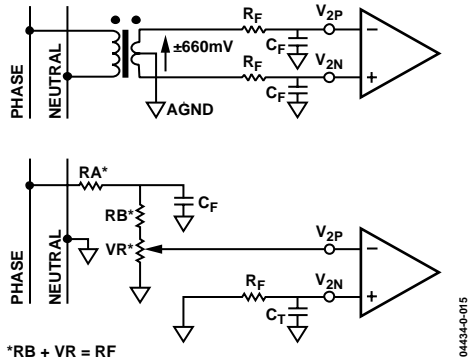

Figure 12. Typical Connection for Channel 2
Figure 12 shows two typical connections for Channel V2. The first option uses a potential transformer (PT) to provide complete isolation from the main voltage. In the second option, the ADE7760 is biased around the neutral wire, and a resistor divider is used to provide a voltage signal that is proportional to the line voltage. Adjusting the ratio of R_A and $R_B + V_R$ is a convenient way of carrying out a gain calibration on the meter.